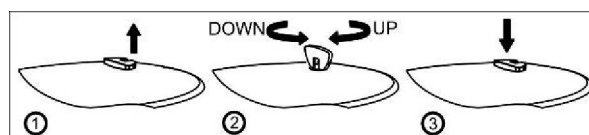

Fig.4
4. Connect the wires according to the Wiring Diagram. (See Fig. 4)